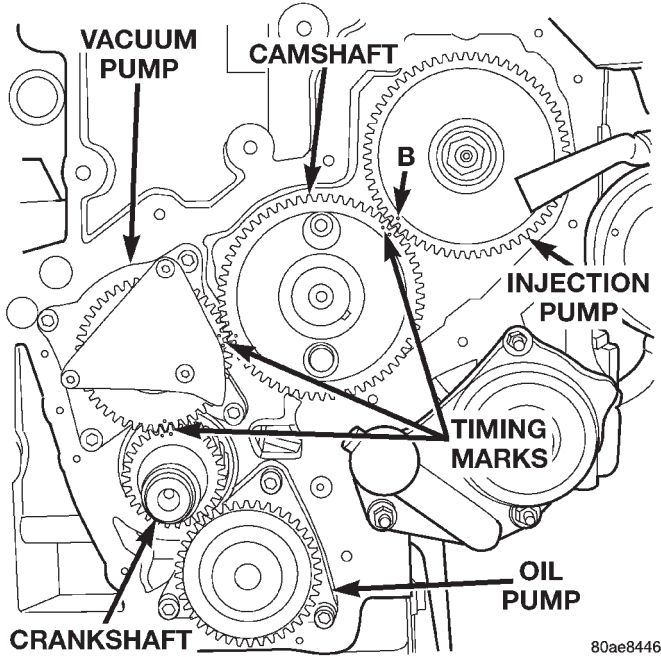

Fig. 42 Timing Marks
- (2) Remove the cylinder head cover. Refer to cylinder head cover removal and installation in this section.
- (3) Remove the cylinder heads. Refer to cylinder head removal and installation in this section.
- (4) Remove the rocker arm assemblies, push rods, and hydraulic tappets. Refer to the respective groups in this section.
- (5) Remove the fan and set fan inside fan shroud then remove fan shroud and fan as an assembly.
- (6) Remove the accessory drive belt. Refer to Group 7, Cooling System for procedure.
- (7) Remove the radiator. Refer to Group 7, Cooling System for procedure.
- (8) Remove the A/C condenser. Refer to Group 24, Heating and Air Conditioning for procedure.
- (9) Remove the vibration damper. Refer to vibration damper removal and installation in this section.
- (10) Remove the power steering pump pulley.
- (11) Remove timing gear cover. Refer to timing gear cover removal and installation in this section.
- (12) Rotate the engine to align the timing marks as shown (Fig. 42).